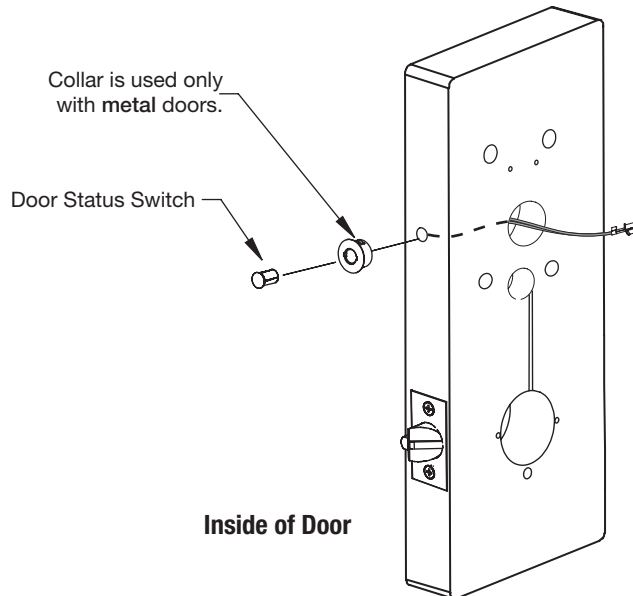

Fig. 5c
- c. Insert connector end of DPS harness through raceway on latch edge of door (Fig. 5c).